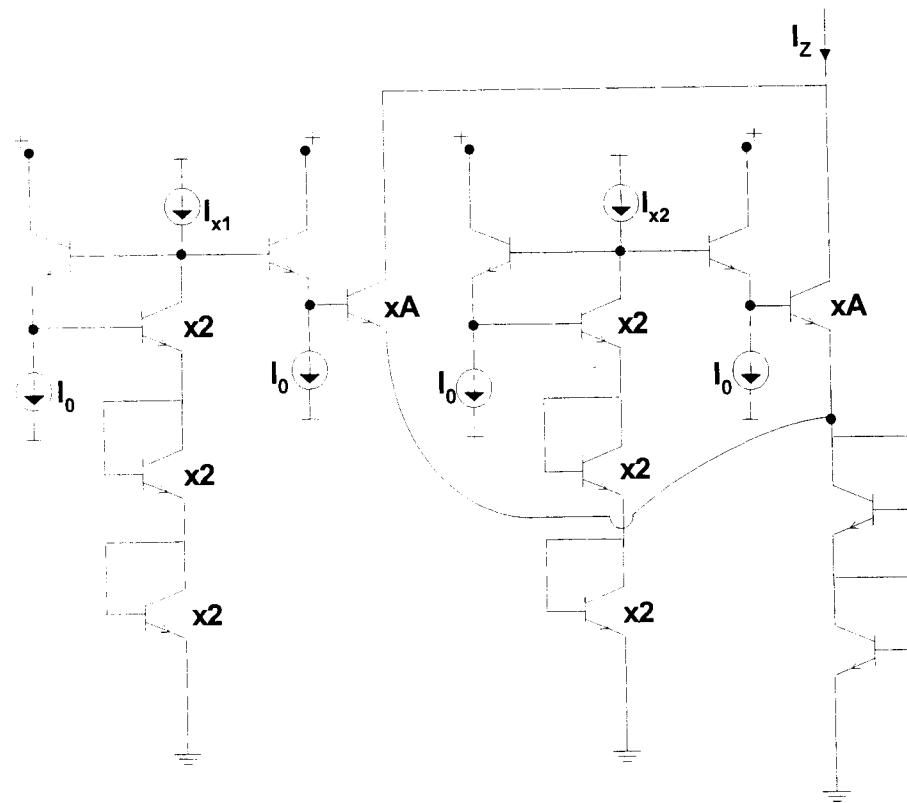

Figure 4.3
- c. For the circuit of Figure 4.3, I_{X_1} and I_{X_2} are input currents whereas I_Z is the output current. Express the current I_Z as a function of the currents I_{X_1} and I_{X_2} and the emitter area A . When $I_{X_1} = I_{X_2} = I$, determine the value of the emitter area A for which $I_Z = I$. [8]